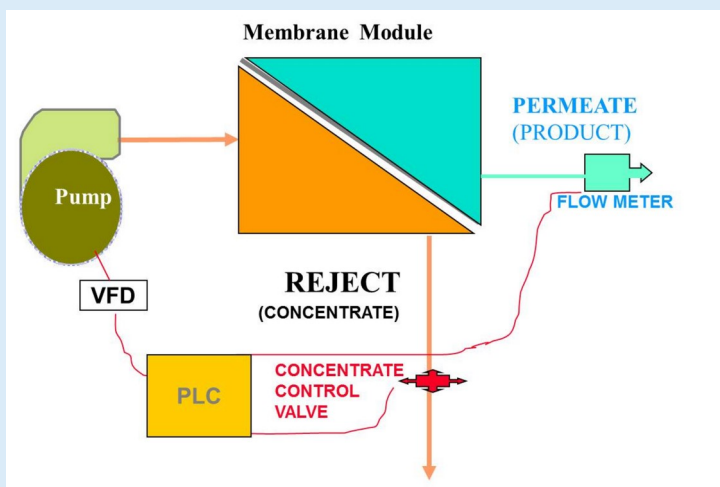

Figure 1: Example of a simplified RO skid control
Figure 1 shows a simplified single stage Reverse Osmosis (RO) skid control. The recovery and permeate flow are constant and set by the process design. The PLC will modulate the concentrate control valve to maintain the recovery. The PLC will ramp the feed pump VFD to maintain the permeate flow set point.